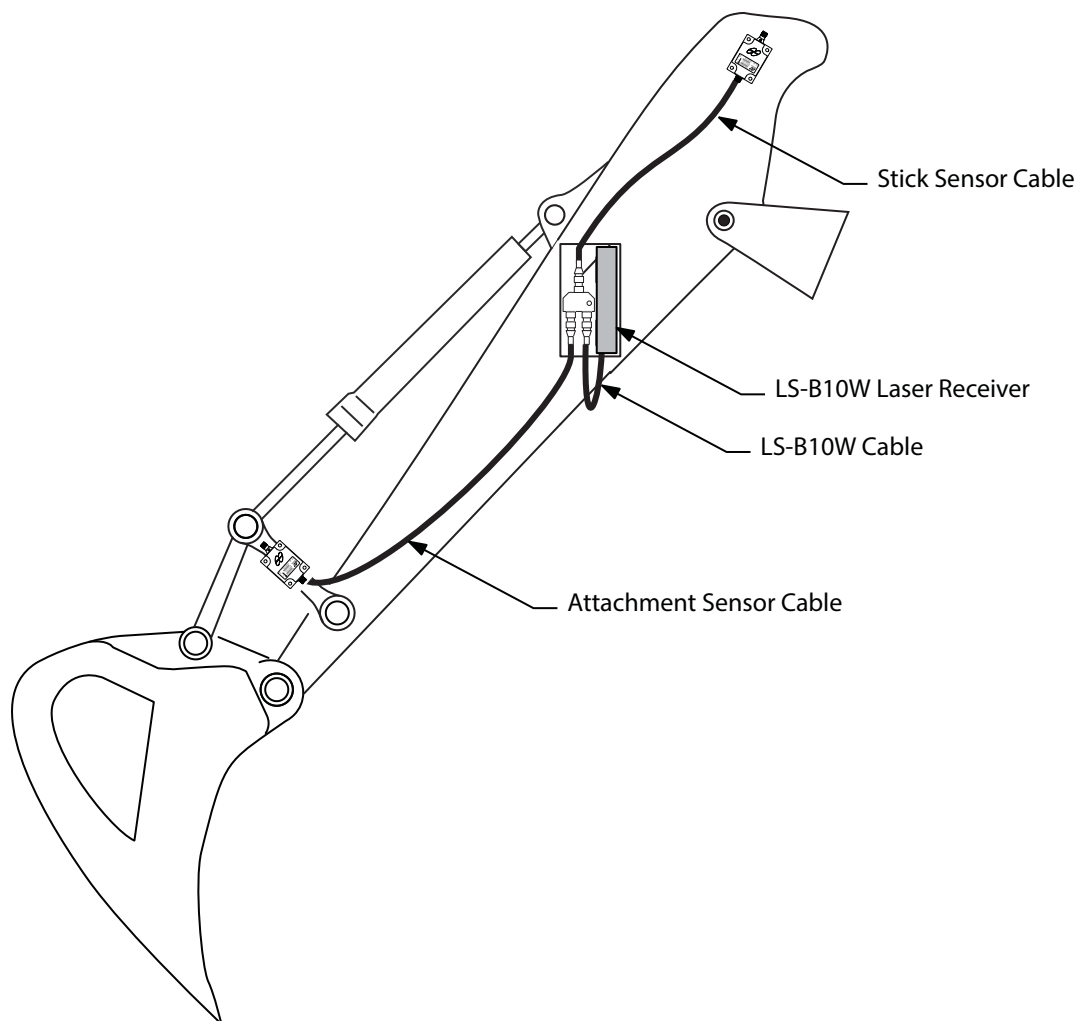

Figure 44: LS-B10W Cable Routing
3. Route the cables as shown in Figure 44.